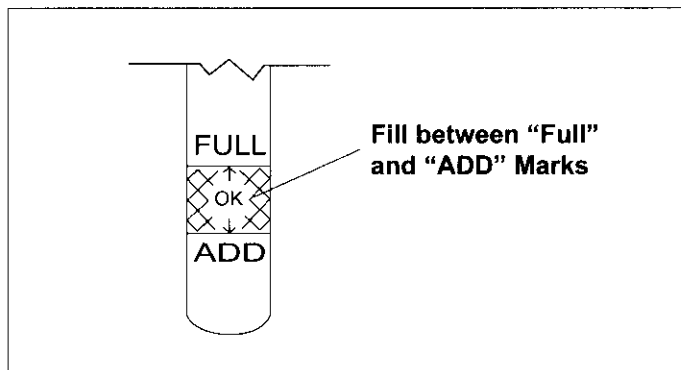

Figure 6. Engine Oil Level
- Keep oil level between "FULL" and "ADD" marks on dipstick or to point of overflow on engines without dipstick. See Figure 6.